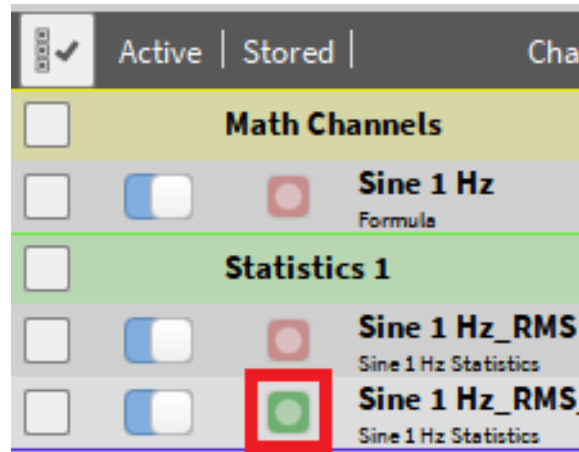

Fig. 7.173: Recognition of offline created channels
- Channels that have been created offline can be recognized on the Green Record button in the Channel List (see Fig. 7.173):